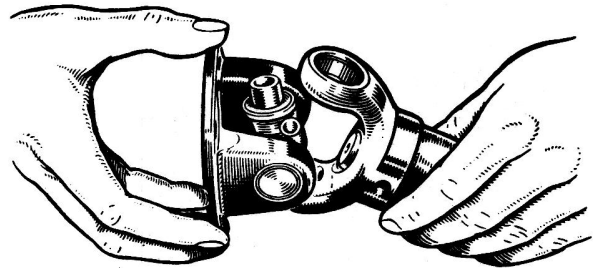

Fig.7.14. Separating the yokes
- 6 The splined sleeve yoke or flange can now be separated from the shaft yoke as depicted in Fig.7.14.